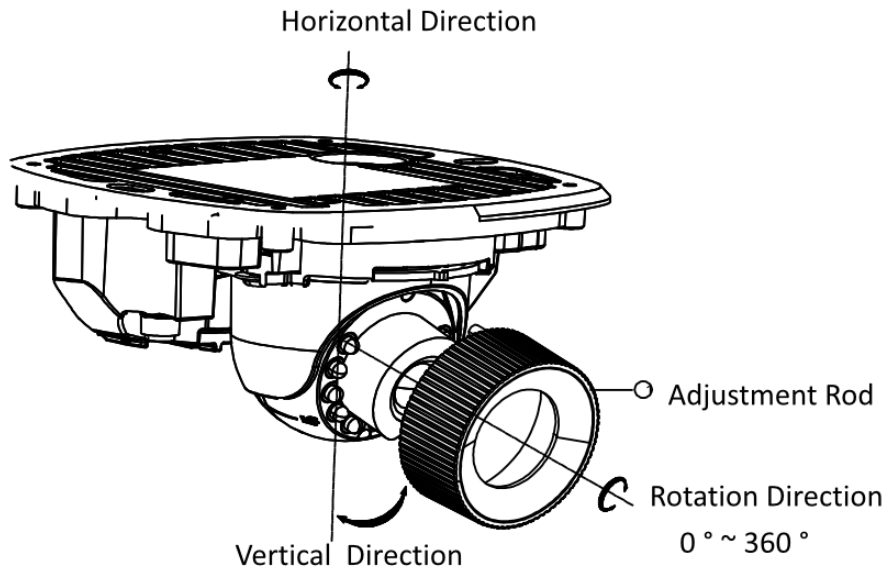

Figure 1-11 Adjusting Angle
Step 6 Loosen the locking screw of the camera's three-axis adjustment, and then attach the attached three-axis adjustment handle, as shown in Figure 1-11. The horizontal direction, vertical direction and rotation direction can be adjusted by the adjusting handle, and the camera picture can be adjusted to the required scene.